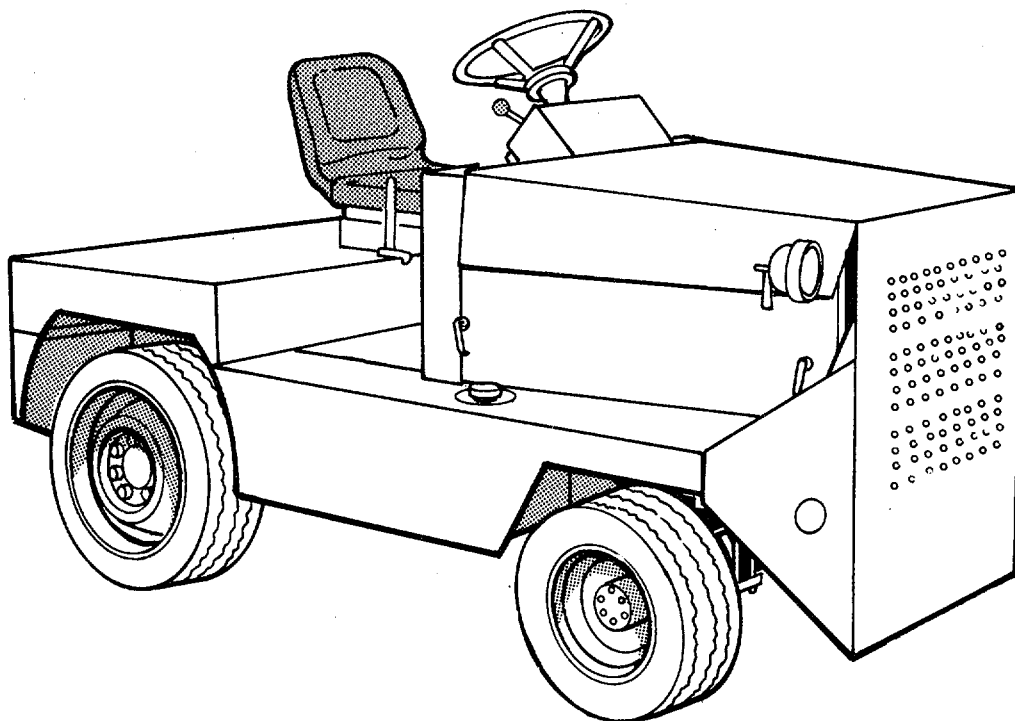

Figure 1-1. Model JG40PT-15 Towing Tractor
**1-2.** This publication contains operation and maintenance instruction and an illustrated parts hat for the Warehouse Towing Tractors listed below, manufactured by Northwestern Motor Company, Eau Claire, Wisconsin 54701. (See figure 1-1.)